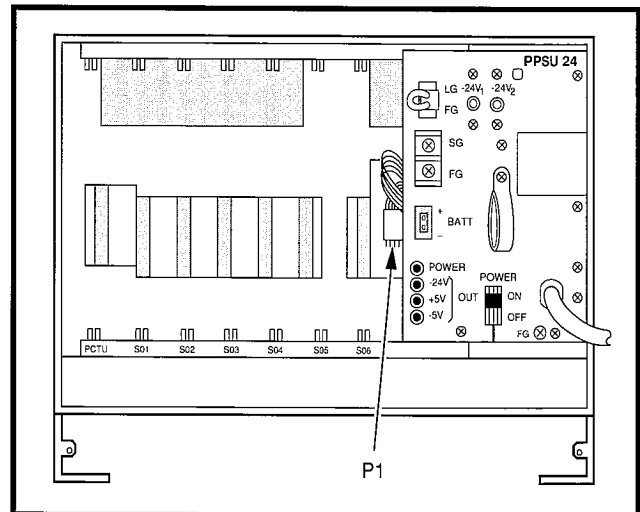

FIGURE 2-2—DK24 KSU INTERIOR
3.11 The DK24 KSU interior has one shelf (Figure 2-2) with seven available PCB slots, labeled PCTU and S01 ~ S06. Only the PCTU slot serves a dedicated function.